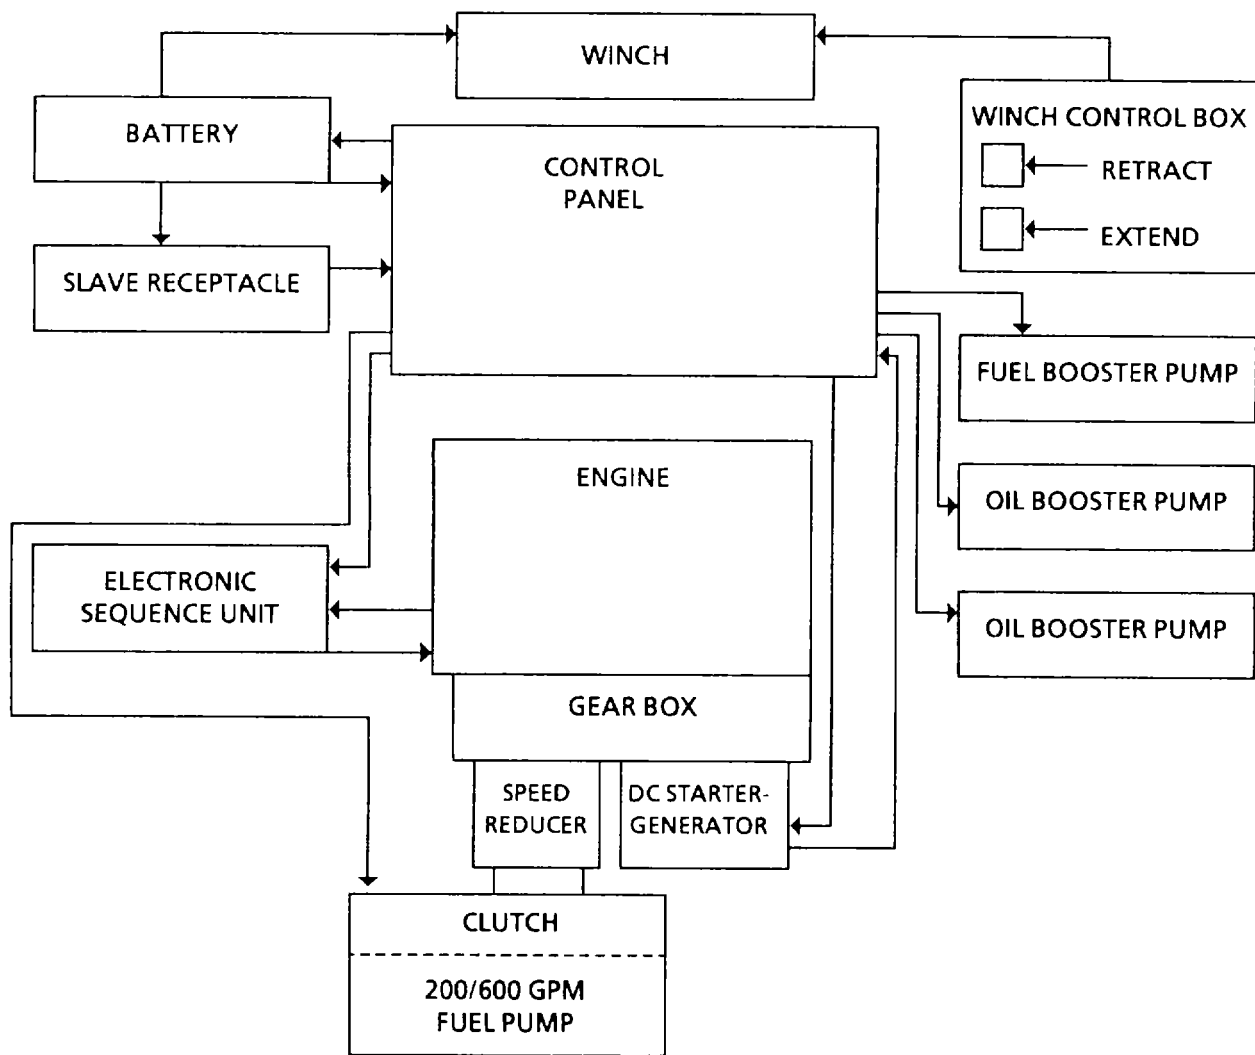

Figure 1-2. Electrical System Diagram
- (1) The engine is essentially a self contained power unit requiring only fuel, ambient air and electrical power for operation.
- (2) A single stage, rotary compressor delivers compressed ambient air to the combustion chamber. The compressed air is mixed with fuel and ignited by the igniter plug. The gases from this combustion process are then delivered to the turbine blades of a radial inward- flow turbine wheel and exhausted thru the exhaust tube.
- (3) The turbine shaft is coupled to the engine gearbox which consists of various reduction gears. The main shaft rotates and is coupled to an auxiliary speed reducer for proper pump speed. Other items attached to the gearbox are the starter/generator and the fuel valve.
- (4) Engine is electrically controlled through a variety of sensors, the fuel control assembly and the fuel solenoid valve. Engine protection is provided by an oil temperature switch, low oil pressure switch, a thermocouple and an Electronic Sequencing Unit (ESU).
c. Electrical System. Refer to Figure 1-2.